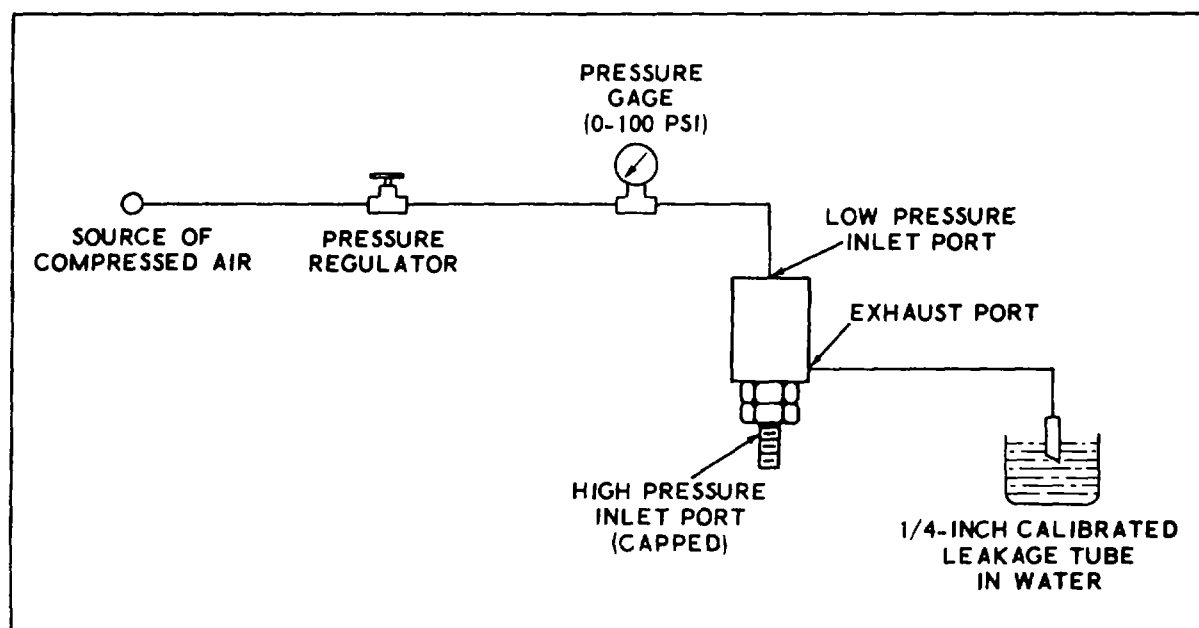

Figure 2-2. Dump Valve Test Set-Up
a. Install the dump valve into a test set-up as shown in figure 2-2.
d. Use same test set-up as illustrated in figure 2-2, except disconnect leakage tube from exhaust port and connect an adjustable source of high pressure compressed air to high pressure inlet port of pneumatic dump valve.